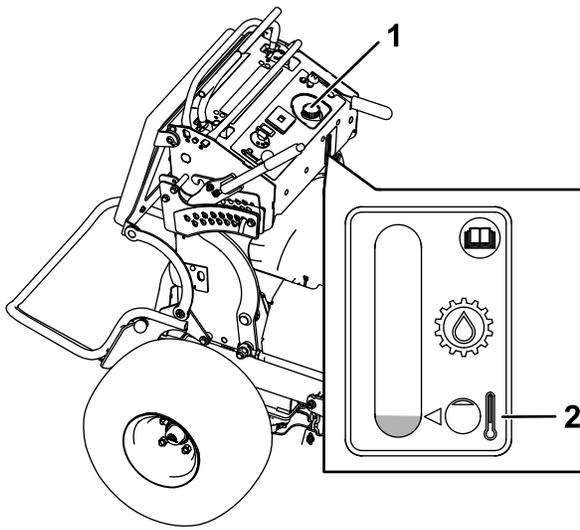

Figure 75
5. Remove the cap from the filler neck (Figure 75).